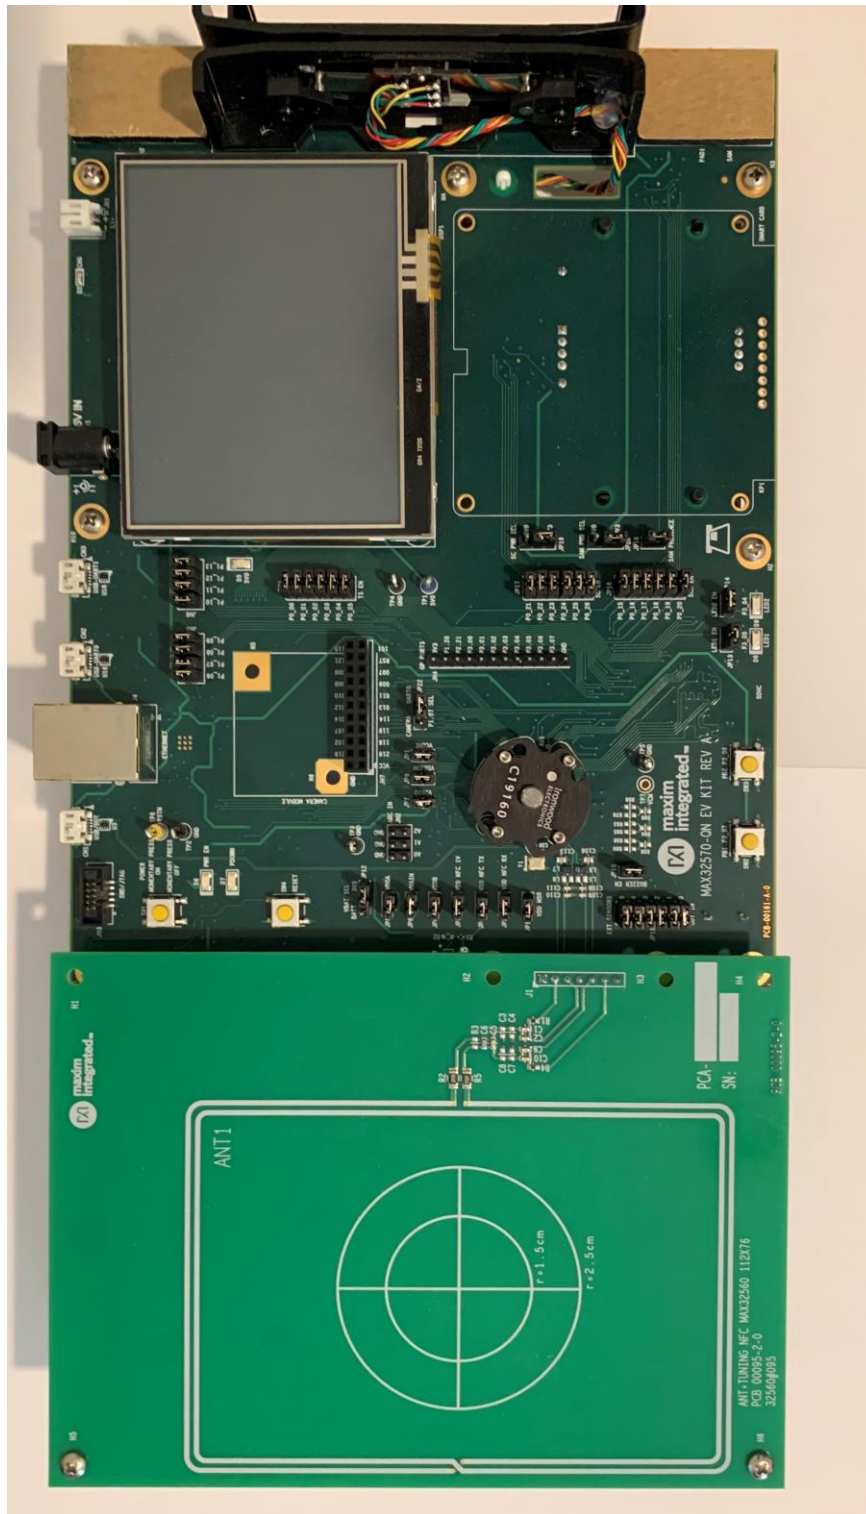

Figure 1: MAX32570 EVKit
- Verify the device has not been damaged in shipping, Figure 1 shows the device as shipped